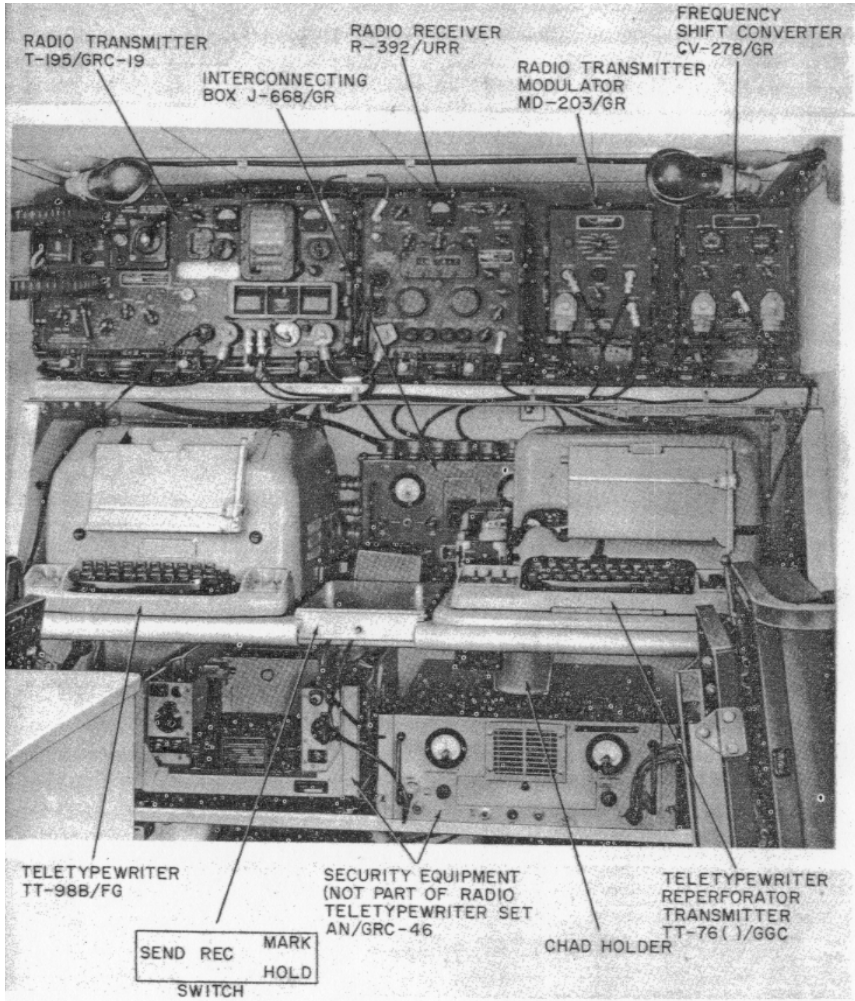

Figure 17. Radioteletypewriter AN/GRC-46 mounted inside a special shelter.
The AN/GRC-46 (fig 17) is basically the same as the AN/GRC-19 with the radioteletype components added. It can transmit and receive continuous wave (CW) (Morse code), voice (radiotelephone), or radioteletype.